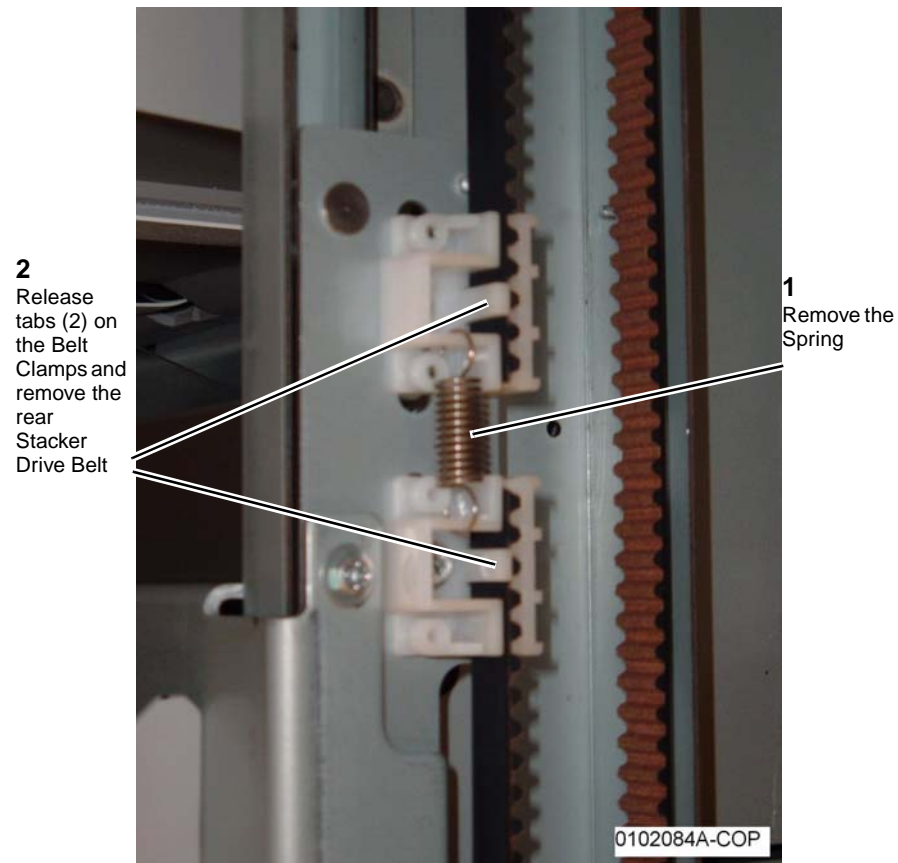
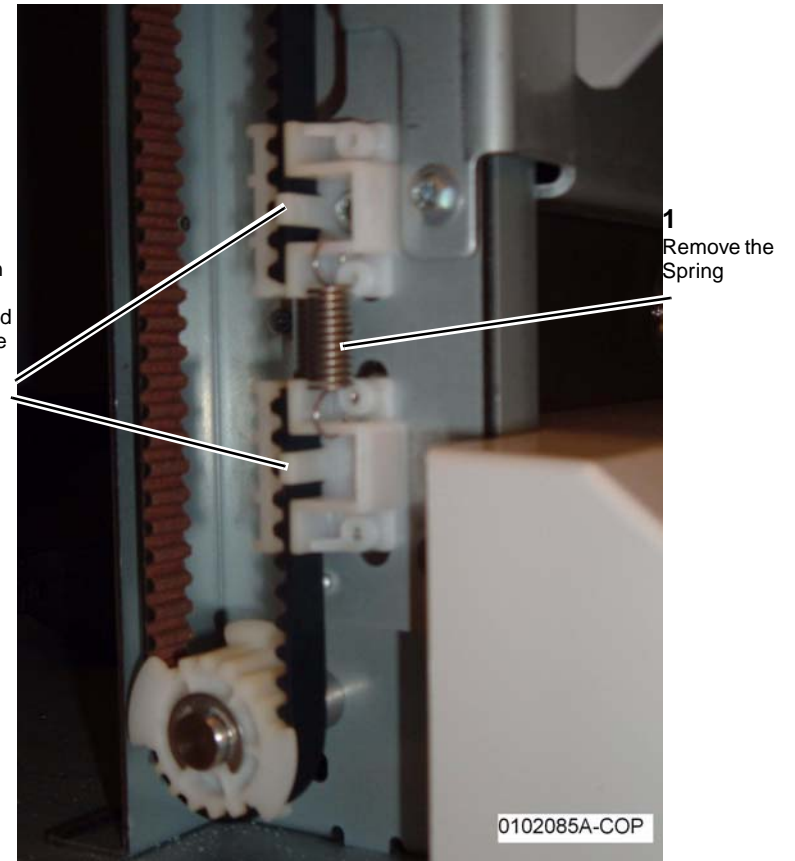

Figure 1 Removing the rear Stacker Belt (P Finisher shown)
Figure 2 Removing the front Stacker Belt (A Finisher shown)
5. Remove the rear Stacker Drive Belt (Figure 1).
1. Reinstall components in the reverse order of the removal procedure. Refer to Figure 1 and Figure 2 for Stacker Drive Belt positioning in the Belt Clamps.